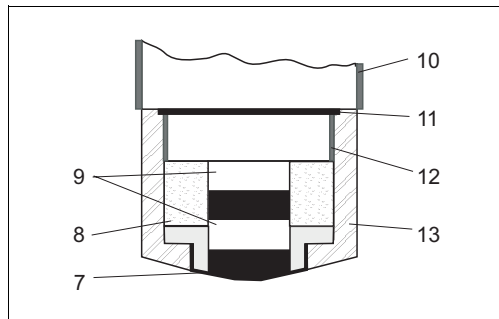
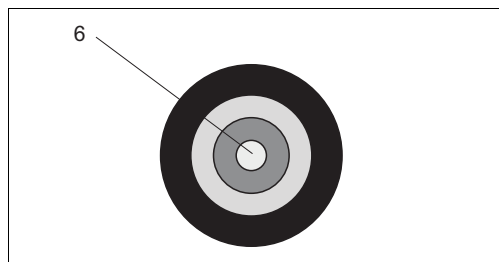

Fig. 18: Sensor head, cutaway drawing
Fig. 19: Sensor head, top view
- Sensor head with cathode and anode (Fig. 18, Fig. 19)
- Membrane cap with electrolyte filling (Fig. 18, pos. 13 and 8)